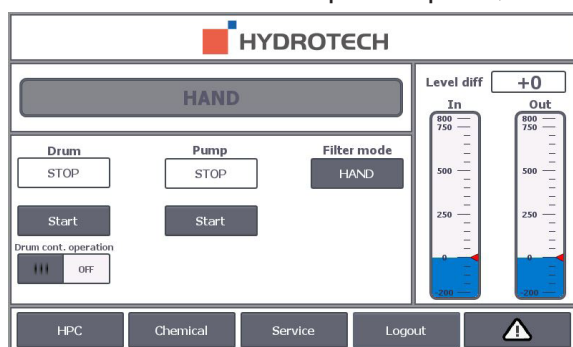

Figure 7.15 Main menu in HAND operating mode.
2. Select “Service” on the operator panel, see Figure 7.15.